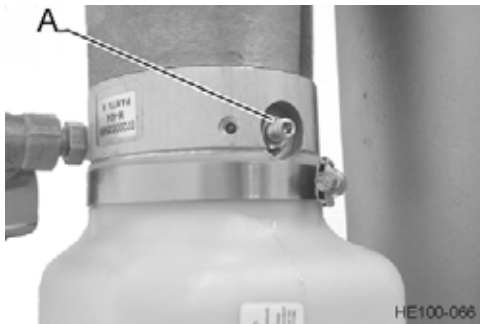

Figure 17 - Pressure Adjustment Screw
5. The pump pressure control (See Figure 17, Item A) should be set to approximately 4-1/2 turns open in the counterclockwise direction from the closed position. This adjustment controls the system pressure and is at maximum when the setscrew is in the closed or full clockwise position. It is adjusted by a 3/16" Allen Head set screw and locked by a 9/16" jam nut.